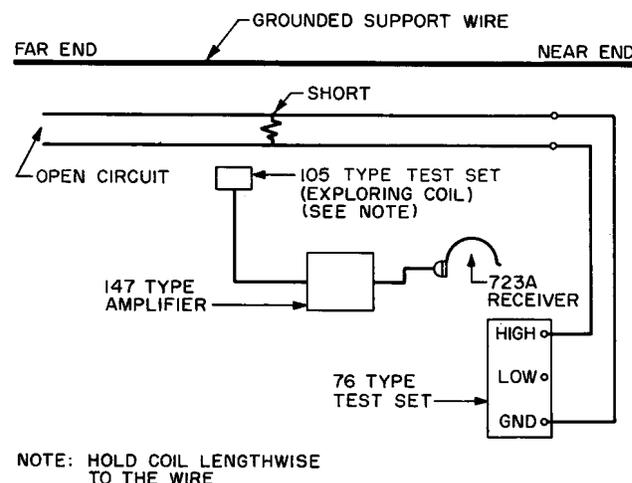

Fig. 2 — Locating Shorts
5.03 After the short has been isolated to a reasonably short section of wire, refer to Fig. 2 and proceed as follows:
(3) Trace the tone along the wire using the test equipment as illustrated in Fig. 2.
(4) A definite change in the level of tone in the headset will indicate that the fault was passed.